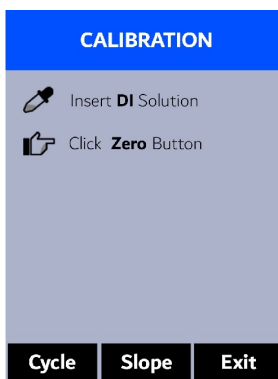

Figure 3.
4. Press **Calibration** (**<** or **>**) to launch the **CALIBRATION** screen (Figure 3).